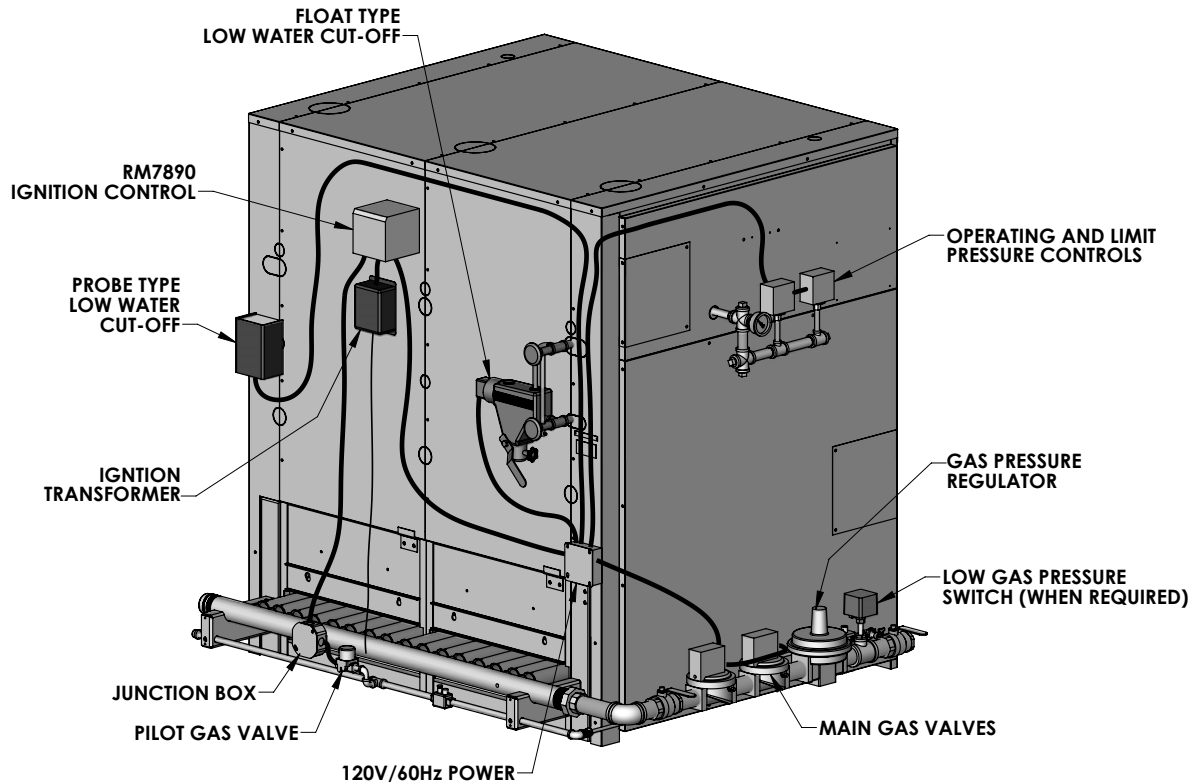
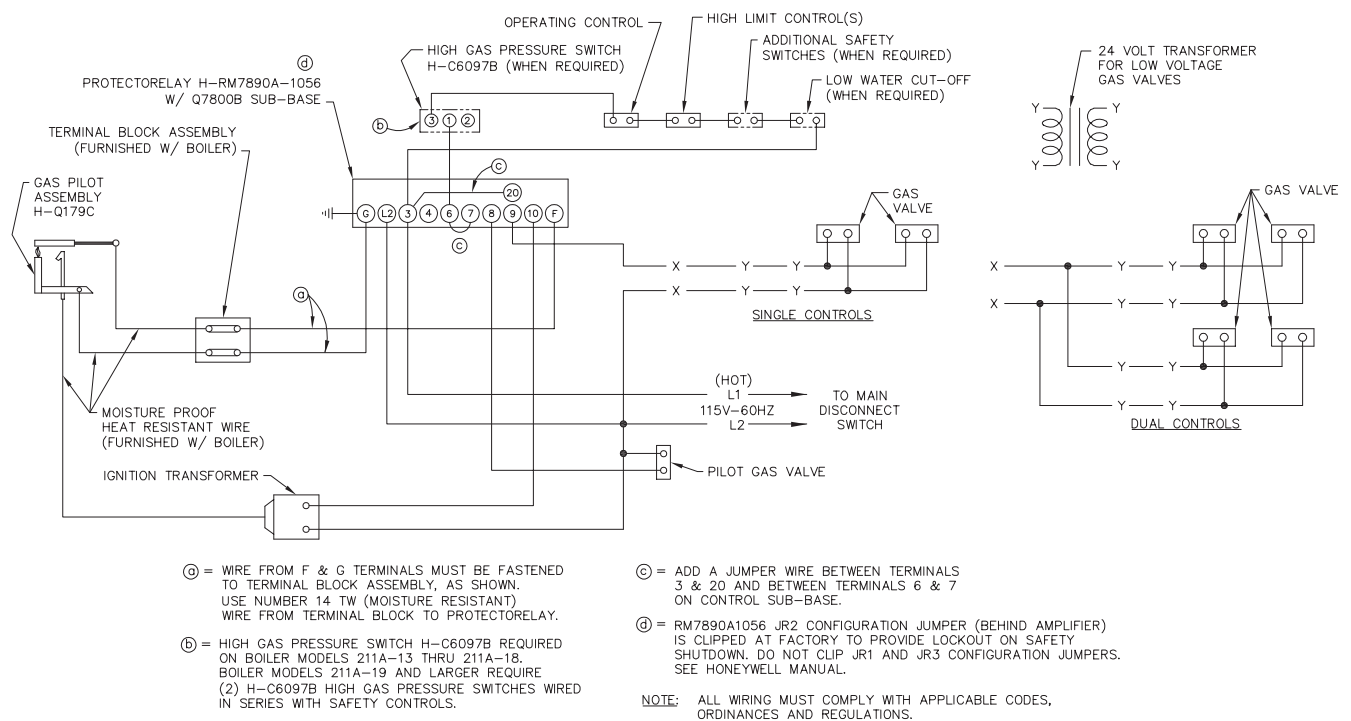

Figure 9.1: Typical Control Layout and Wiring - E*-E Ignition
Figure 9.2: Typical Wiring – E1-E Ignition System
3. Mount an electrical junction box on the boiler Front Panel for connection of supply wiring and distribution to the boiler controls. See Figure 9.1.
1. Mount the control transformer on the junction box as shown in Figure 9.1.
1. Wire the boiler according to the wiring diagram supplied with the boiler (in the Control Envelope). Figure 9.1 is a typical layout of the components on the boiler. Figure 9.2 is an example of a standard wiring system. Use this drawing for general reference only.